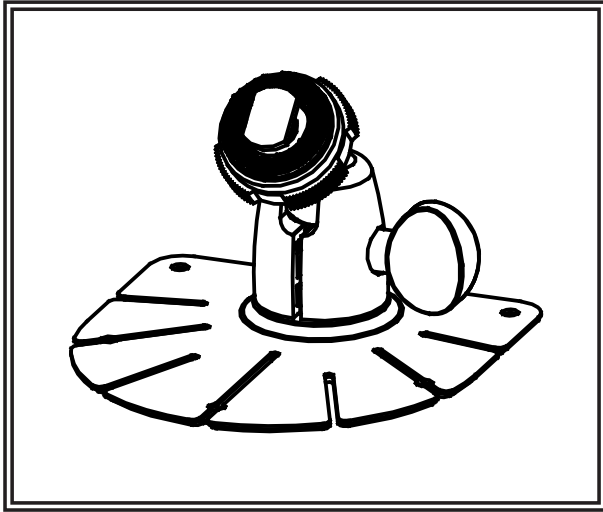

Figure 6
1. Select suitable position on vehicle and fix the base support. (Figure 6)